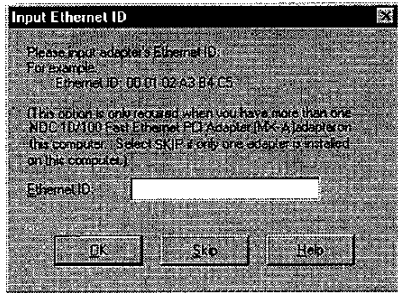

Figure 30. Input Ethernet ID
step7. The *Input Ethernet ID* box will open (**Figure 30**)
step8. If you want to install more than one SOHWARE™ Fast adapter into this machine, input an ID number in the same format as shown in **Figure 30** and click **OK**. If there is only one adapter to be installed in this machine click **Skip**